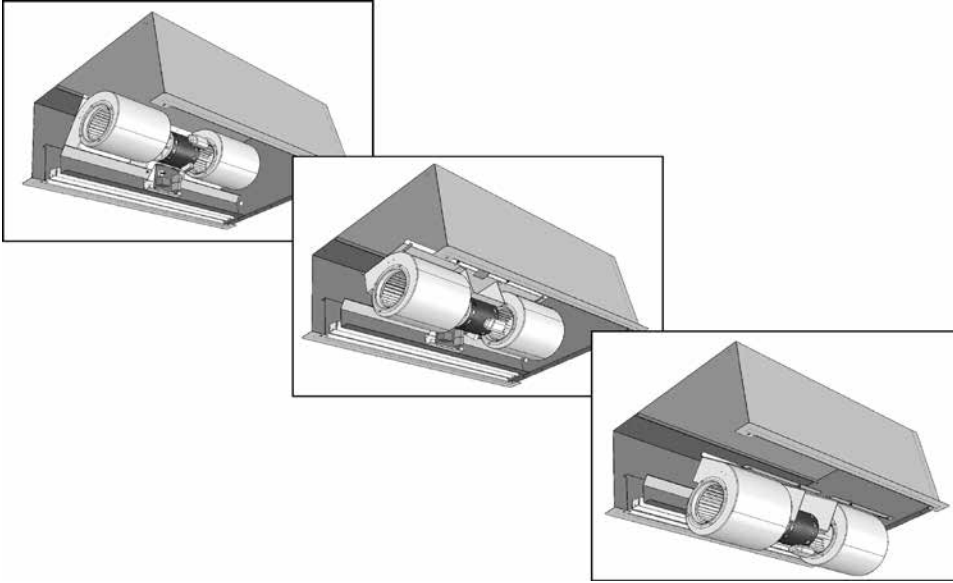

Figure 10
7. Wearing protective gloves, hold the module by the motor, and rotate the module top forward and drop it down through the bottom of the unit. **See Figure 10.**
9. Next, remove the two blower housings by removing the (8) screws that attach the fan housings to the blower plate. When the fan housings are free, slide them and their fan wheels off to each side.